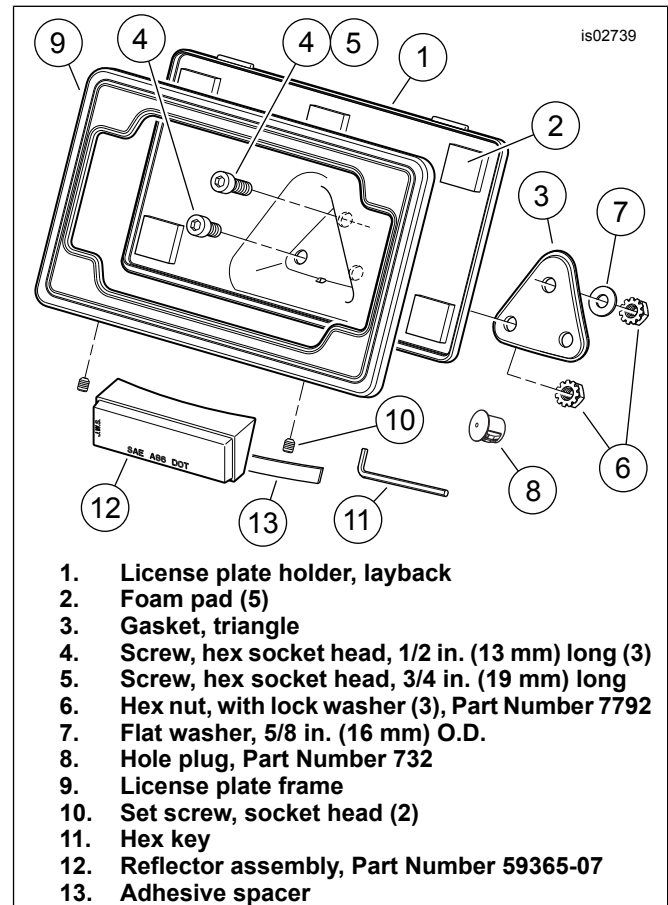

Figure 1. Layback License Plate Mount Components
See Figure 1.
2. See Figure 1. Fasten the new license-plate holder to the rear fender:
- a. **For 2002 and later Dyna, AND 2004 and later Sportster models:** Insert the hole plug (8) into the hole in the fender to the left of the two lower license-plate mounting holes.
- b. **For all models EXCEPT Sportster:** Fasten the triangle gasket (3) and license-plate holder (1) to the fender using three **1/2-in. long** screws (4) and hex nuts with lock washers (6) from the kit. Tighten securely.
- c. **For Sportster models only:** Fasten the triangle gasket (3) and license-plate holder (1) to the fender using the **3/4-in. long** screw (5), flat washer (7), and a hex nut with lock washer (6) from the kit **in the TOP hole**. Do not fully tighten. Fasten the license-plate holder and gasket to the fender at the lower two holes using two 1/2-in. long screws (4) and two hex nuts with lock washers (6). Tighten all three screws securely.